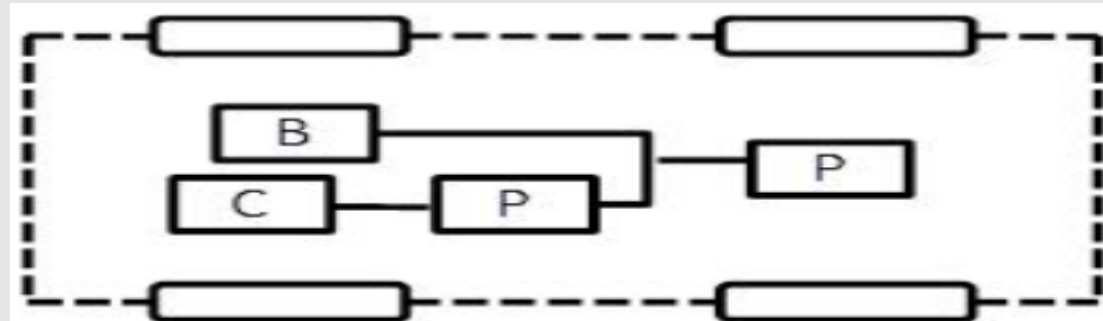

Figure 4e: EV configuration with battery and capacitors sources
- **Configuration 5:** In fuel cell and battery combination, the battery is selected to provide high specific power and high-energy receptivity. In this configuration a battery and supercapacitor combination is used as an energy source, **Figure 4e**. The battery used in this configuration is a high energy density device whereas the supercapacitor provides high specific power and energy receptivity. Usually, the supercapacitors are of relatively low voltage levels, an additional dc-dc power converter is needed to interface between the battery and capacitor terminals.